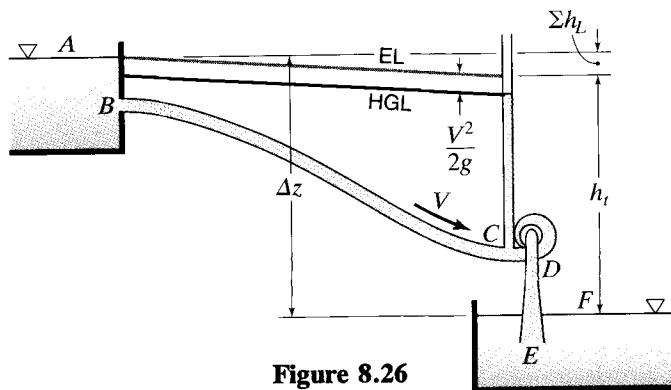

Figure 8.26
8.28.5 In Fig. 8.26 assume the pipe diameter is 12 in, $f = 0.021$, $BC = 200$ ft, and $\Delta z = 120$ ft. The entrance to the pipe at the intake is flush with the wall, and discharge losses are negligible. (a) If $Q = 8$ cfs of water, what head does it supply to the turbine? (b) What power does the turbine deliver if its efficiency is 75 percent?